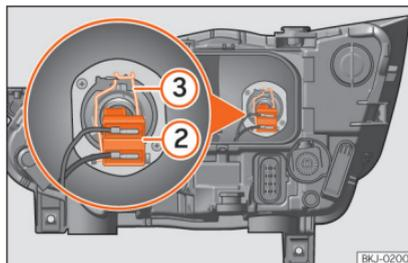

Fig. 56 In the engine compartment: dipped beam headlight bulb.
- Remove the bulb connector »» Fig. 56 ②.
- Unclip the retainer spring »» Fig. 56 ③ pressing inwards to the right.